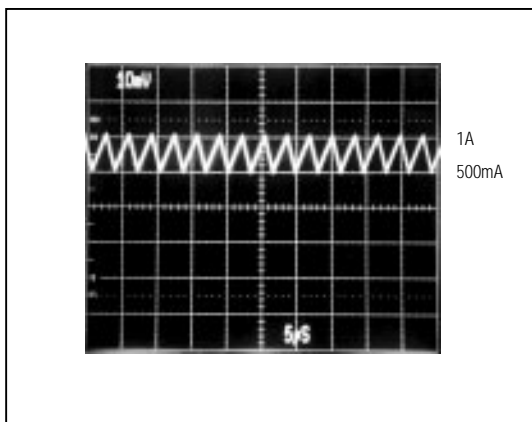

Figure 4a. CCM, Heavy Load Current Waveform (500mA/div)
The MAX761/MAX762 also limit the peak inductor current, allowing the devices to run in continuous-conduction mode (CCM) and maintain high efficiency with heavy loads (Figure 4a). This current-limiting feature is a key component of the control circuitry. Once turned on, the switch stays on until either (1) the maximum on-time one-shot turns it off (8µs later), or (2) the current limit is reached.
The coil's inductance need not satisfy this criterion exactly, as the circuit can tolerate a wide range of values. Larger inductance values tend to produce physically larger coils and increase the start-up time, but are otherwise acceptable. Smaller inductance values allow the coil current to ramp up to higher levels before the switch can turn off, producing higher ripple at light loads. In general, an 18µH inductor is sufficient for most applications ( $V_{IN} \leq 5V$ ). An 18µH inductor is appropriate for input voltages up to 3.6V, as calculated above. However, the same 18µH coil can be used with input voltages up to 5V with only small increases in peak current, as shown in Figures 4a and 4b.